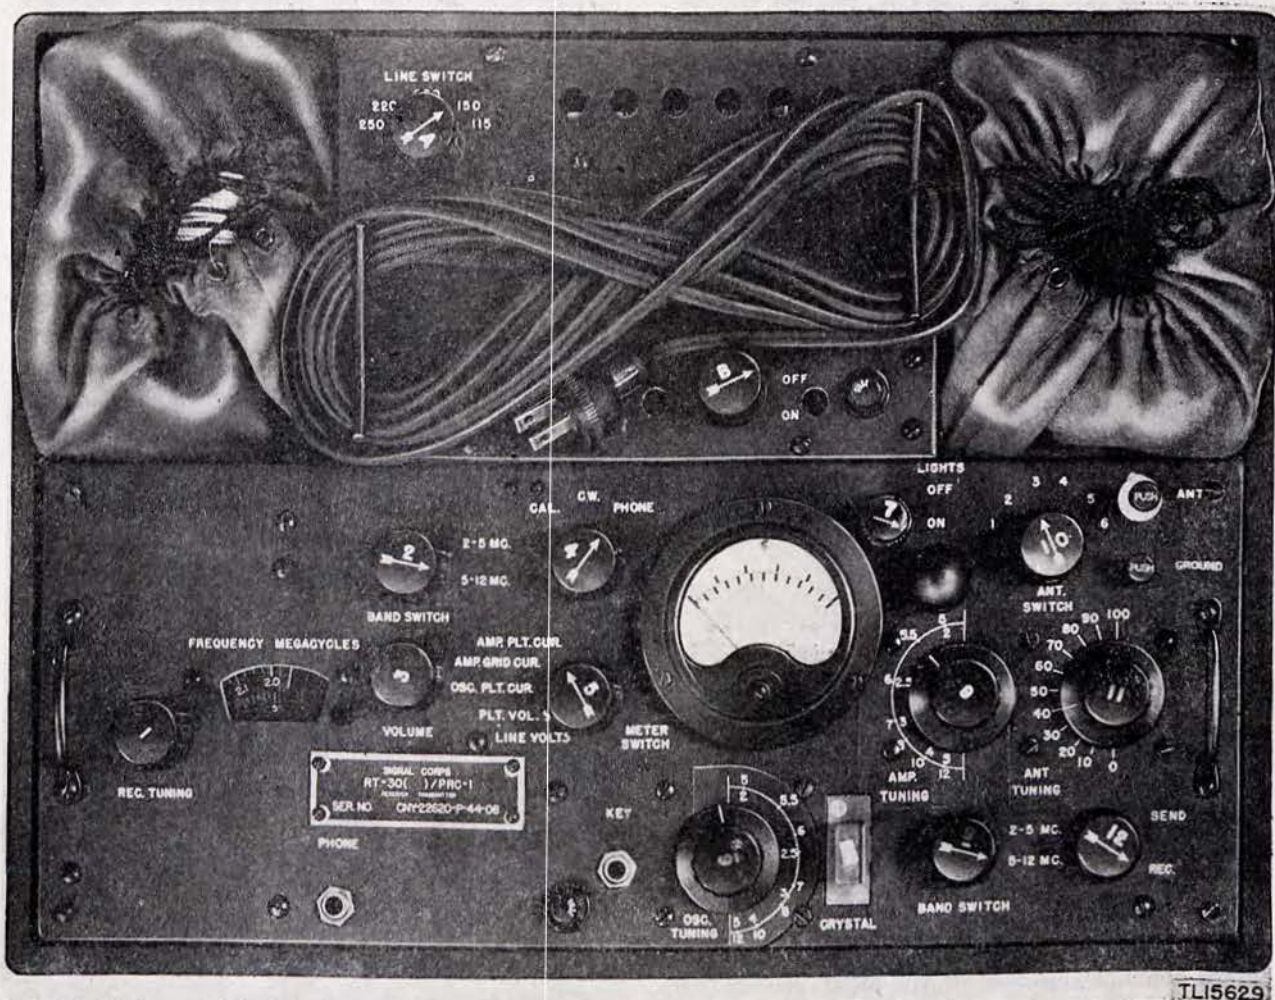

Figure 9. Front panels in open carrying case.
Rectifier Power Unit PP-36()/PRC-1 consists of the power unit and its front panel mounted in the upper-center compartment of the carrying case. The rectifier power unit provides a source of filtered, rectified a-c plate, screen-grid and bias voltage for both the transmitter and receiver as well as a source of a-c filament voltage for the transmitter, receiver, and power unit. Full-wave rectification is employed. Provision is made for operation of the power unit on various a-c input voltages through the adjustment of a selector switch. All controls, switches, and fuse posts are mounted on the front panel of the power unit (fig. 9). Interconnection between the power unit and the receiver
16. CONTROLS (fig. 9).